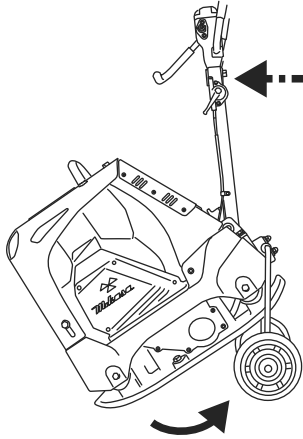

Fig.32
- 1 Take the front of vibrating plate down, and push the handle to raise the cart. (Fig. 32)